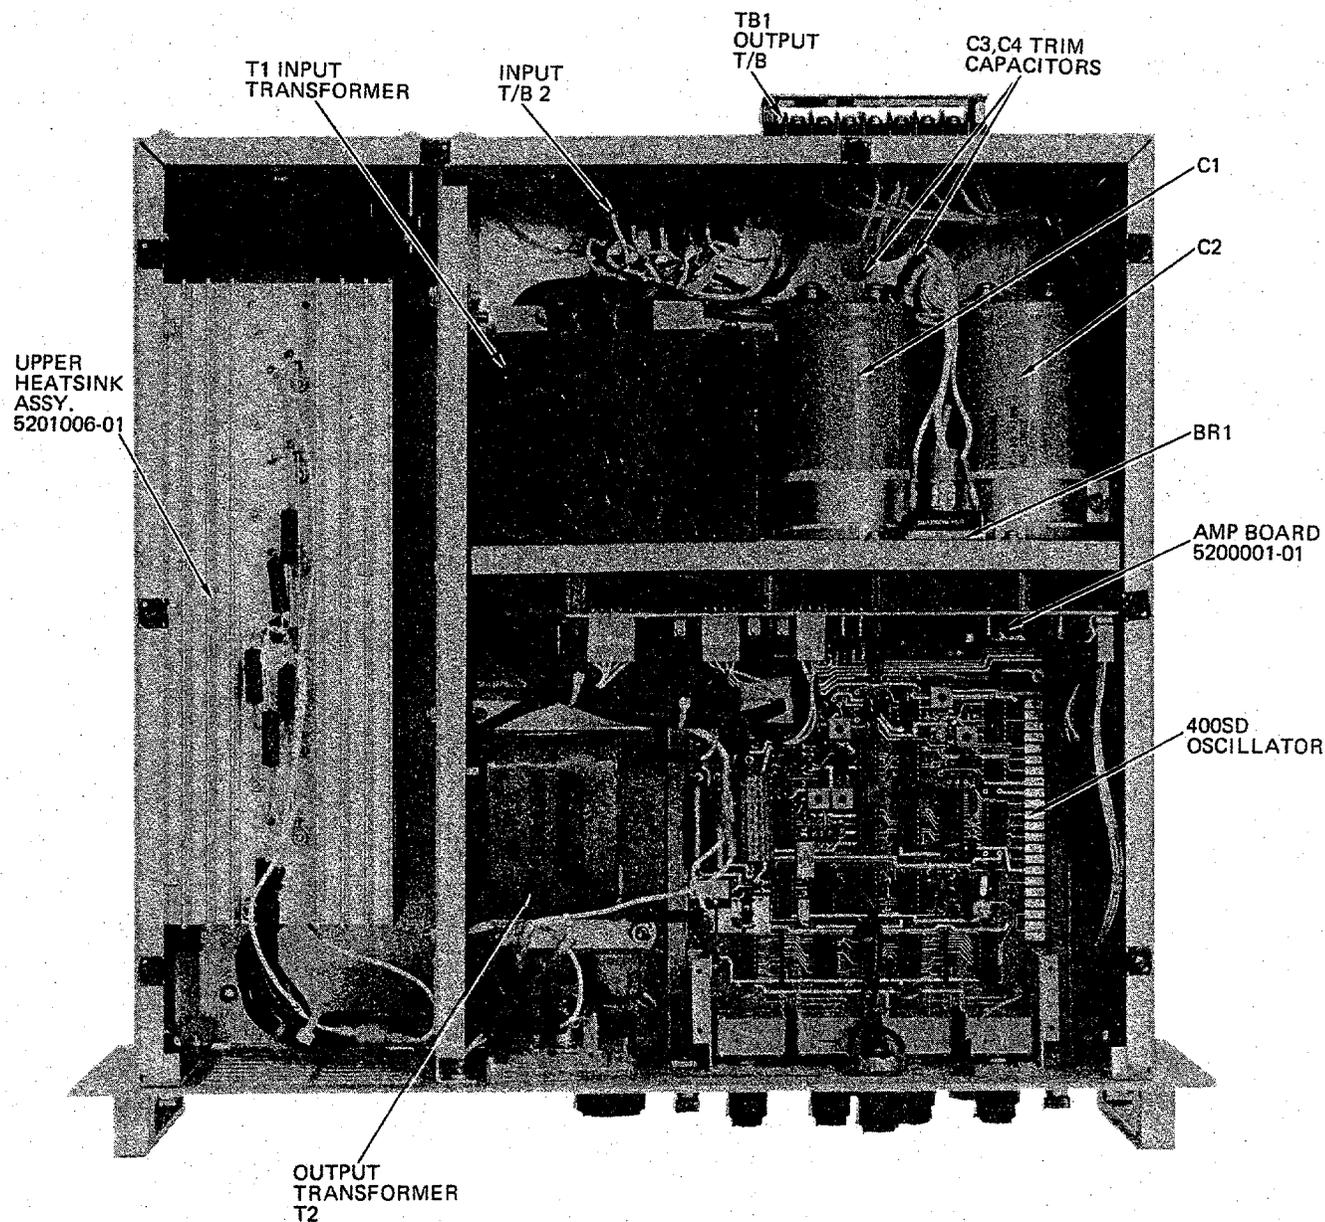

Figure 5-1. Model 251B Top View
5.6 Test points and adjustment controls are conveniently provided at the top of the amplifier circuit board, accessible by removing the top cover of the unit (see Figures 5-1 and 5-2). The test points are as follows:
5.18 COMPONENT LOCATIONS. Refer to Figures 5-1 through 5-4 for major component locations in Models 251B and 501B. Also, refer to Section VII for parts layouts of board assemblies.